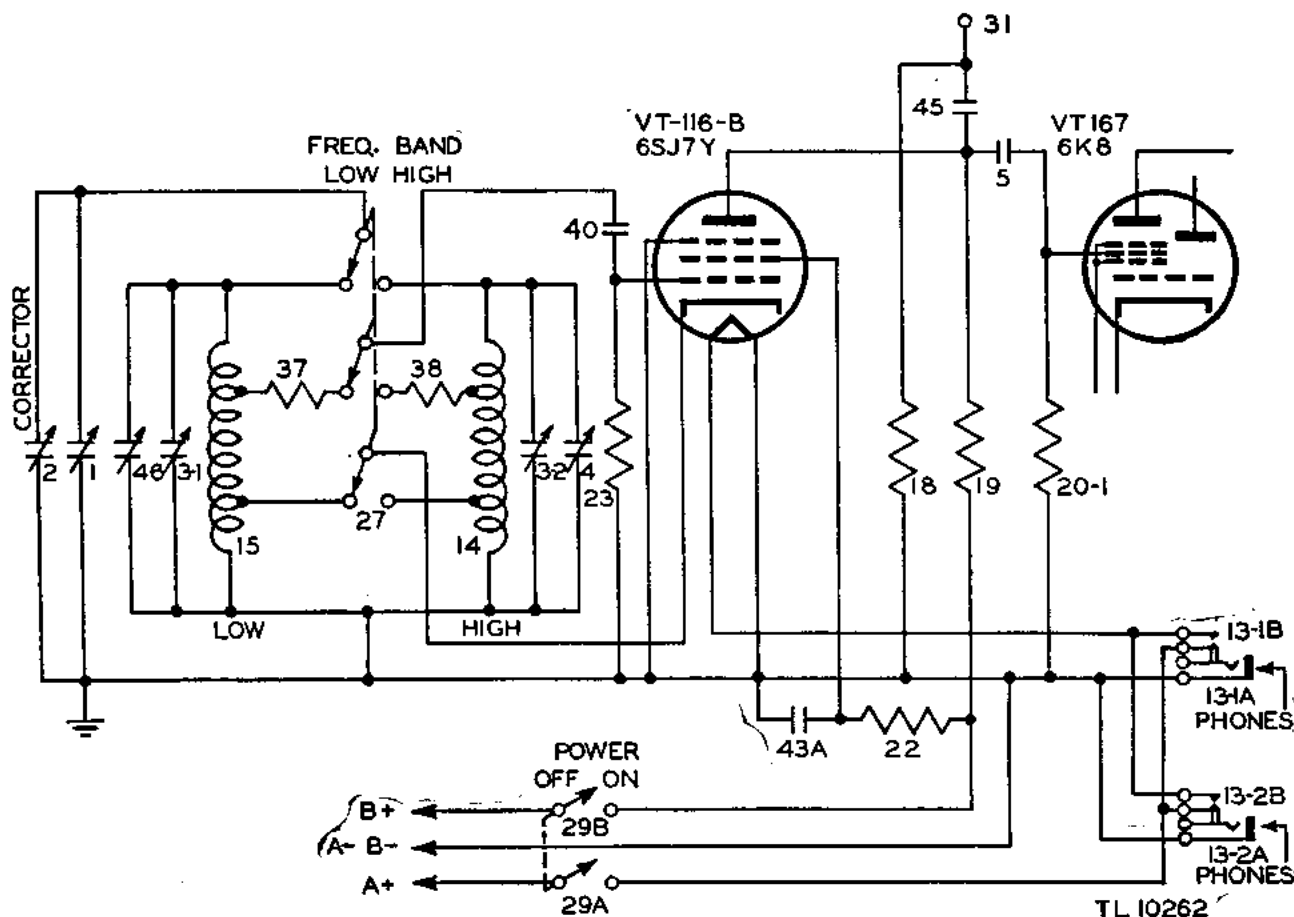

Figure 58. Frequency Meter BC-221-O, and BC-221-R, functional diagram, variable frequency oscillator circuit.
(2) In the BC-221-O and BC-221-R the band selector switch 27 is a double-throw, triple-pole switch. (See fig. 58.)